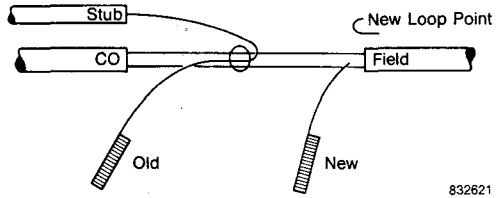

Fig. 110—Place loop through point at group to be transferred.
- i. Place loop through point at group to be transferred to along core. See Figure 110.